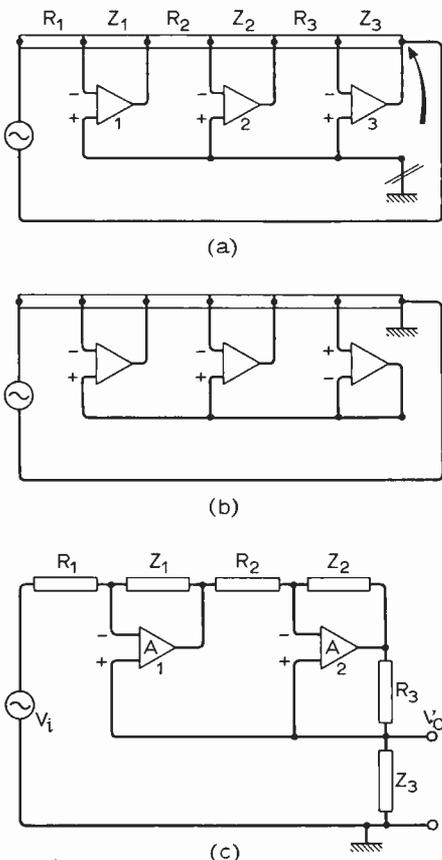
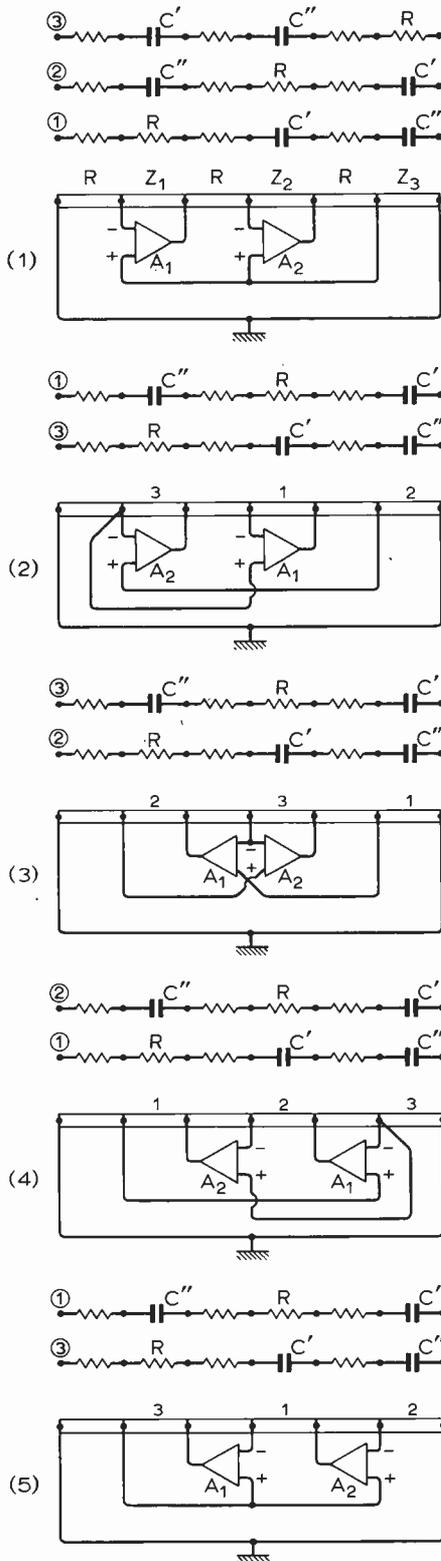

Fig. 1. Summary of derivation given in Part 15.
Fig. 3. Five of the twelve connection diagrams.
In Part 15 it was shown how a two-amplifier circuit, using amplifiers with differential input, can be derived from the standard three-amplifier two-integrator loop (the basic high- $Q$  active CR circuit). The two-amplifier circuit, Fig. 1(c), may be thought of as a bootstrapped version of the standard circuit; and the essential steps in the derivation are (1) the moving of the
earth point as shown in Fig. 1(a) and the consequent conversion of amplifier 3 to a voltage follower, Fig. 1(b), (2) the removal of the voltage follower and the direct connection of the + terminals of amplifiers 1 and 2 to the junction of  $R_3$  and  $Z_3$ .
A constant feature of the standard two-integrator loop, and of the circuits derived from it as described, is the string of six passive elements which in Fig. 1(c) are drawn conventionally as rectangular boxes; and it is helpful, both to emphasize this feature and for economy in space and effort, to draw the string as a bar, Figs 1(a) and (b). It is to be understood that two of  $Z_1, Z_2, Z_3$  (any two) are capacitances and the remaining one a resistance, giving three distinct circuits (see Fig. 3, diagram 1). The two having  $Z_3$  a capacitance can, by the removal of that capacitance, serve as earthed inductances: the third with  $Z_1, Z_2$  capacitances is useful as a low-pass filter section, since in this case  $R_3$  and  $Z_3$  are both resistances, and therefore form an aperiodic potential divider, and a low-impedance low-pass output can be taken from the output terminal of amplifier 2. But three circuits from one is only a beginning.
the performance of the two-amplifier system, Fig. 1(c), will be essentially unchanged if the positive input terminal of amplifier 2 is connected to the negative input terminal of amplifier 1. The same conclusion can also be reached by reference to the original three-amplifier loop: the correct voltage to pass on to the second stage is virtually the voltage developed across  $Z_1$ .† Thus diagram 2 of Fig. 3 is obtained. For the time being no notice should be taken of the numbers
No input or output terminals are shown in Fig. 3. A key to their normal positions is given in Fig. 4, where the analogy is made with an equivalent passive circuit. With ideal amplifiers, the voltages  $V_0'$  and  $V_0''$  in the active circuit (b) will be equal, and will correspond to the voltage  $V_0$  in the passive circuit (a). Thus l-p response is obtained at both  $V_0'$  and  $V_0''$  with input at  $V_1$  ( $V_2$  shorted), and h-p response with input at  $V_2$  ( $V_1$  shorted). In practice the voltages  $V_0'$  and  $V_0''$  are not themselves very suitable as outputs, because they come from high-impedance points. But, as described in Part 15, by arranging the element string so that the  $Z$  adjacent to the desired output point is a resistance, a similar output may be taken from the output terminal of one of the amplifiers.
Fig. 4(c) shows the two arrangements of the passive elements which give an inductance, and the two corresponding complete element strings (six elements) are shown against diagrams 2 to 5, Fig. 3, and in Fig. 7; but the third string may of course be used, as in diagram 1, for the synthesis of a quadratic factor.
Connection diagram 2 of Fig. 3, with the lower of the two strings shown (3), corresponds to the circuit given as a simulated inductance in Fig. 6(c) of Part 15, and which analysis and experiment show to be satisfactory for high- $Q$  circuits, though, when finite gain in the amplifiers is allowed for, of somewhat lower intrinsic  $Q$  than those connected as diagram 1.
conform to connection diagram 3 of Fig. 3, used with the upper string (3).